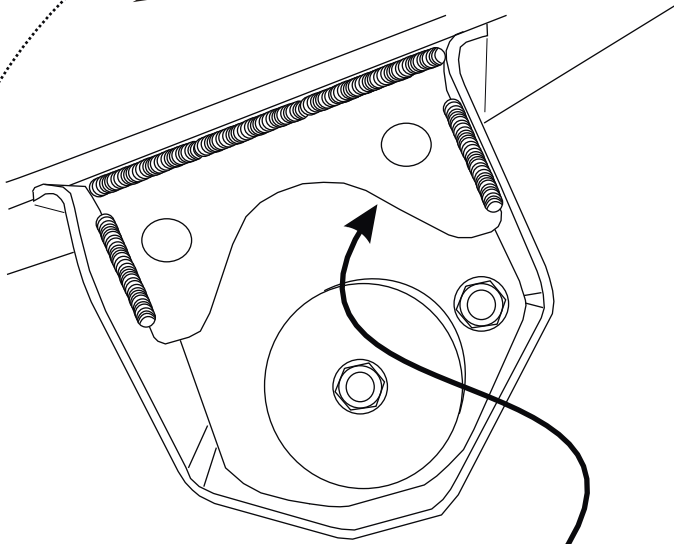

FIGURE 1
- STEP 3. Insert M10 bolt through the existing hole at the rear of the body mount. Attach the front bracket support as shown. **SEE FIGURES 1 AND 2.**